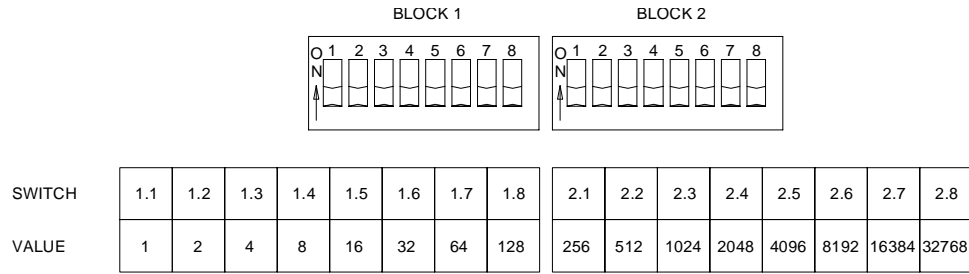

Figure 3.5: Address Switch Chart
- Referencing Figure 3.5: Address Switch Chart use the following formula.